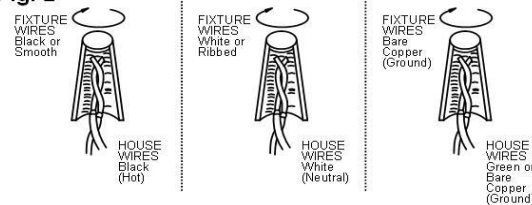

Fig.3
7. Align back plate (N) onto mounting plate (C) and secure with the rubber washers (K) and cap nuts (L).
8. Separate lamp body (P) from top cover (M) by unscrewing the mounting screws (Q). Align the glass (O) into body (P) and secure with glass clips (S).
9. Re-attach body (P) to the top cover (M) with mounting screws (Q).
10. To prevent moisture from entering the outlet box and causing a short, use clear caulking (i.e. Indoor/Outdoor Silicone Sealant) to outline the outside off fixture back-plate where it meets the wall leaving a space at bottom to allow moisture a means to escape (Fig 3).